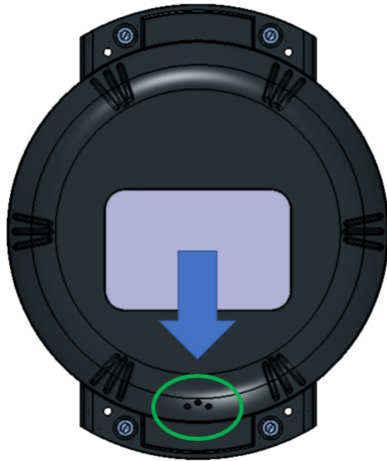

Figure 5
- 1.8. Take the projector, orientate it like in fig 5 and place it between the internal supports fixed on the hull.